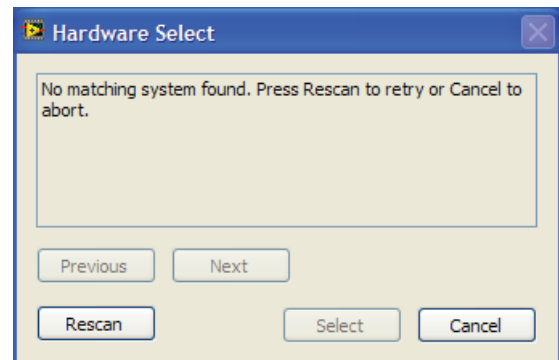

Figure 4. Pop-Up Window Error
2. If the SDP board is not connected to the USB port when the software is launched, a connectivity error is displayed (see Figure 4). Connect the evaluation board to the USB port of the PC, wait a few seconds, click **Rescan**, and follow the instructions.